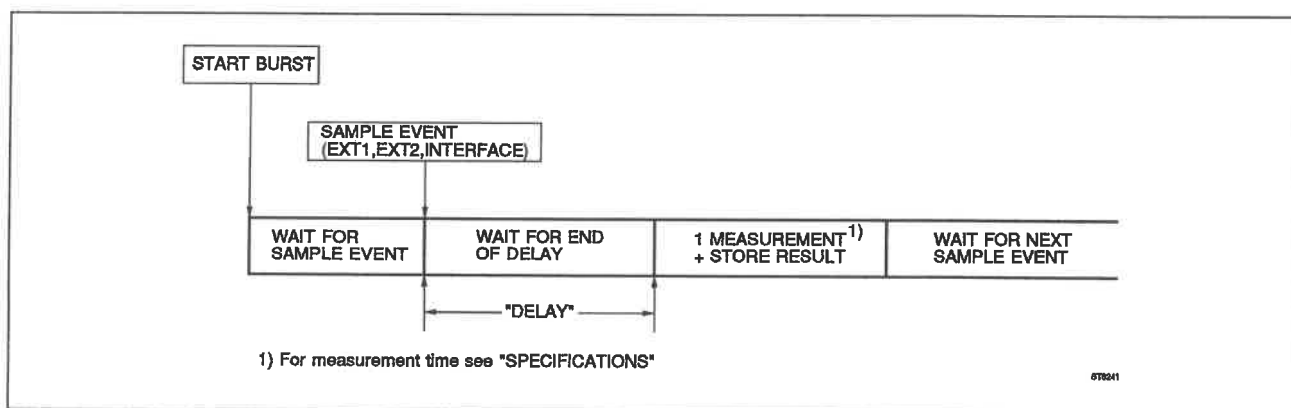

Fig. 4.45 Sample timing at sample input EXT1, EXT2, or INTERFACE.
- 2. EXT 1 a new sample is taken after a falling edge on the rear panel EXT 1 input, when the DELAY is expired (Fig. 4.45). See below "EXT1, EXT2 input".
- 3. EXT 2 a new sample is taken after a falling edge on the rear panel EXT 2 input, when the DELAY is expired (Fig. 4.45). See below "EXT1, EXT2 input".